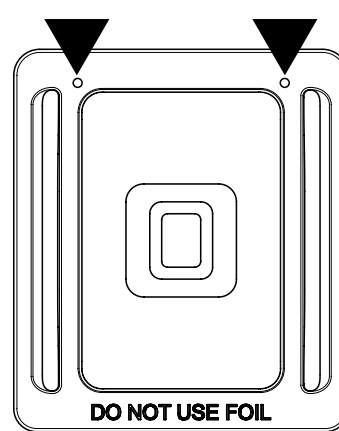

Figure 14a
1. Remove the two screws from the rear of the oven bottom. Lift the oven bottom out of the cavity (see Figure 14a).